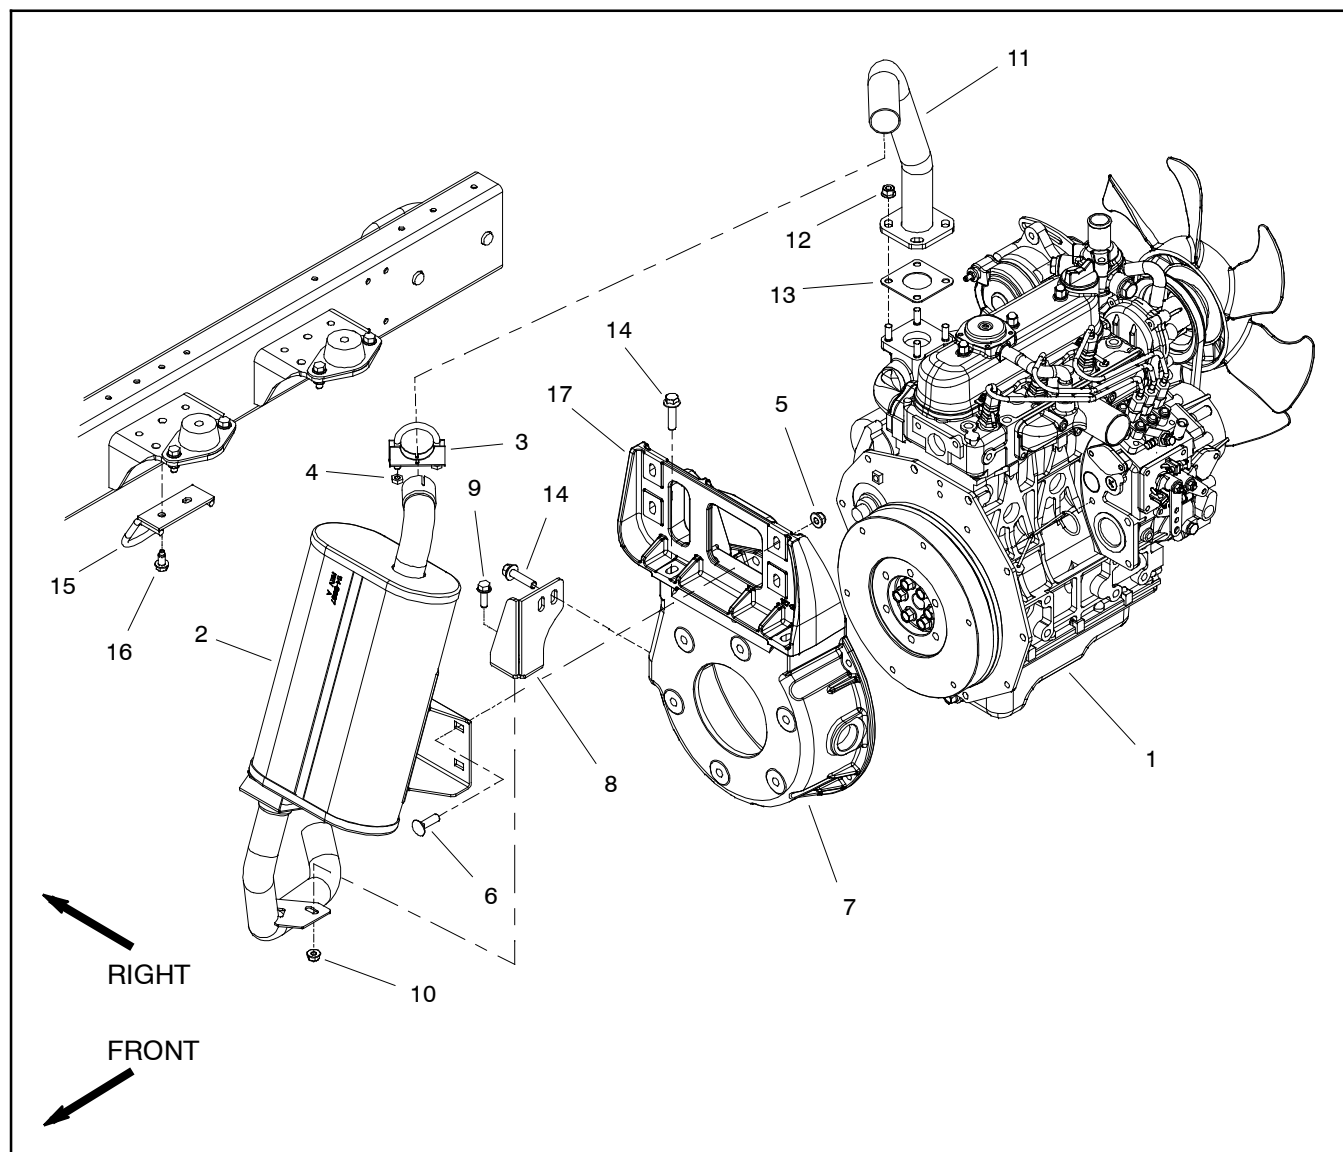
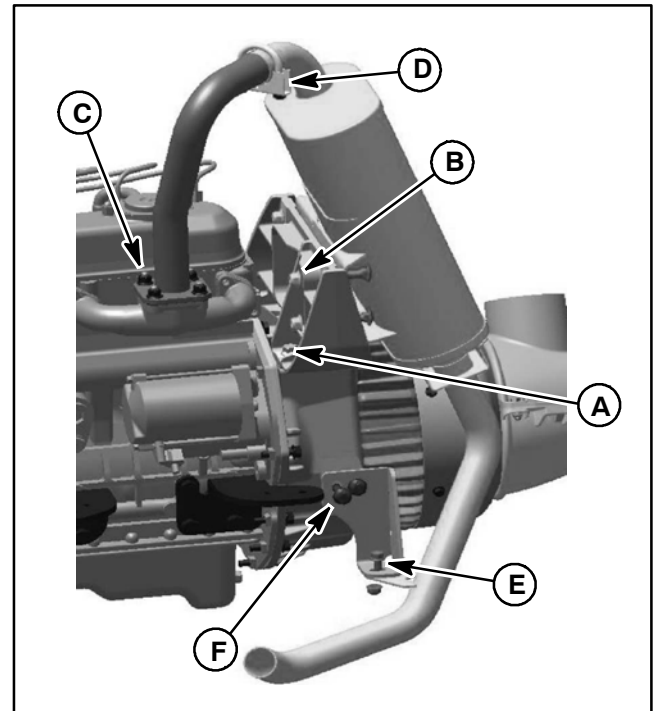

Figure 4
Figure 5
Removal (Fig. 4)
2. Remove exhaust system components from the engine as necessary using Figure 4 as a guide. Discard exhaust gasket (item 13) if exhaust header (item 11) was removed.
Installation (Fig. 4)
1. Install **new** exhaust gasket (item 13) if gasket was removed. Do not use any type of gasket sealant on gasket or flange surfaces.
2. Install all removed exhaust system components using Figure 4 as a guide. Hand tighten exhaust system fasteners and after all exhaust system components have been installed, fully tighten the fasteners as shown in Figure 5:
3. Adjust muffler guard (item 15) on frame so there is $\frac{3}{8}$ " (9.5 mm) clearance between exhaust tailpipe and guard in all directions.